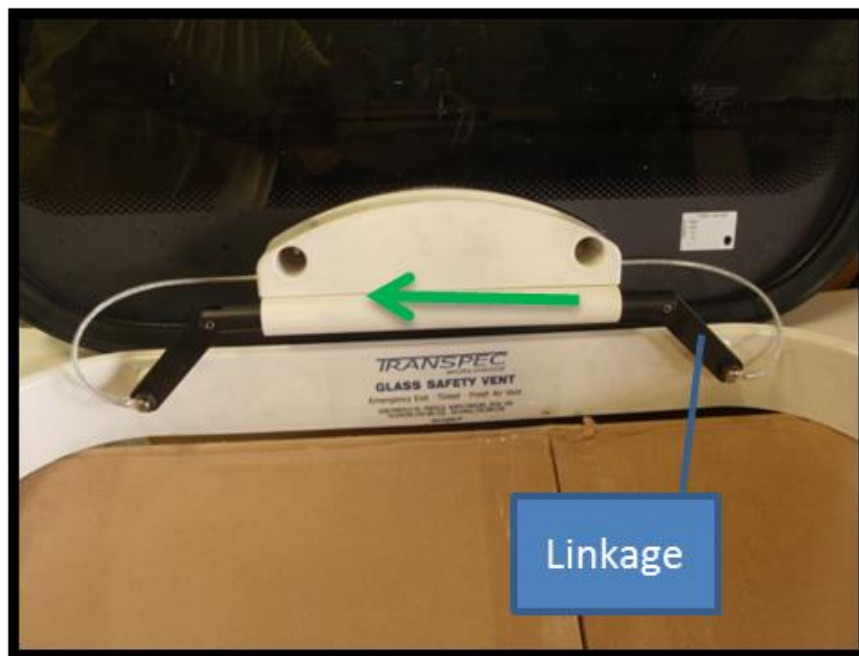

Figure 14: Right linkage remains fastened to the hatch frame (left linkage removed during the previous step).
5. Slide the lid off of the remaining secured linkage as illustrated in Figure 14.